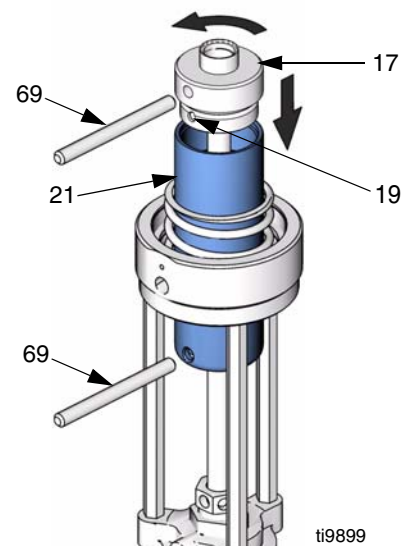

FIG. 13
4. Place pin tool (69) in piston hole to prevent piston from turning. Use second pin tool (69) to unscrew piston cap (17) and separate from piston (21) to expose dowel pin (19). See FIG. 13.